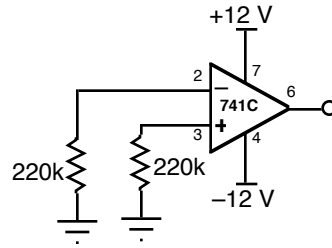

Fig 6.3
a) *Input offset and Bias Currents.* The 741C has a typical $I_{\text{in(bias)}}$ of 80 nA. Assuming that this is the current through each 220 k resistor in Fig. 6.3, calculate the dc voltages at both inputs. Now connect the circuit and measure the input voltages. Repeat this measurement for a FET input op amp such as LF411 or TL071. Calculate $I_{\text{in(off)}}$ and $I_{\text{in(bias)}}$ in both cases and compare the two op amps.